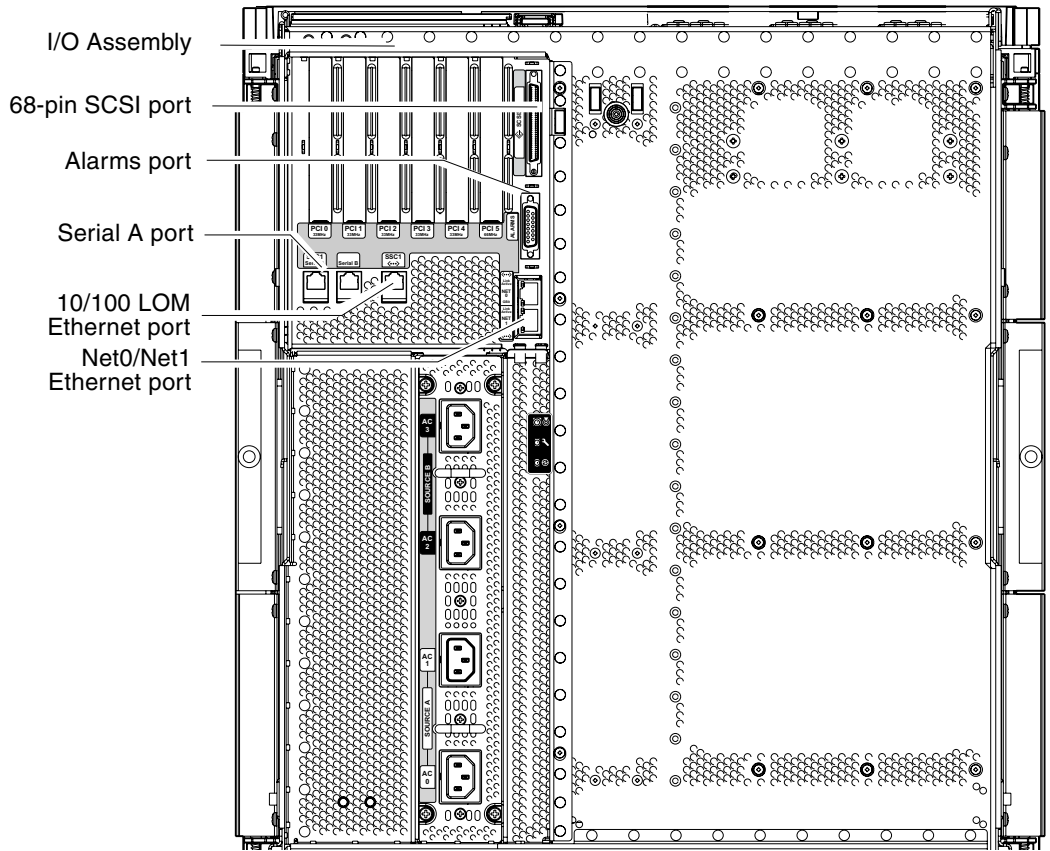

FIGURE 1-18 System Controller and I/O Assembly Locations
1. **Connect one end of the I/O Ethernet cable to the Net0/Net1 Ethernet port (FIGURE 1-18).**